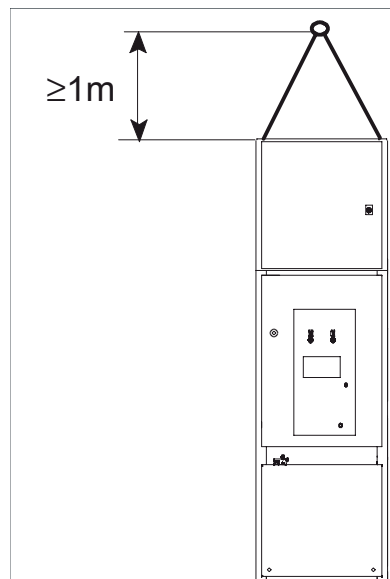

Figure 42
1. Attach the crane straps in the four jack rings on top of the panel (Figure 41), maintaining a minimum height of 1 m (Figure 42).